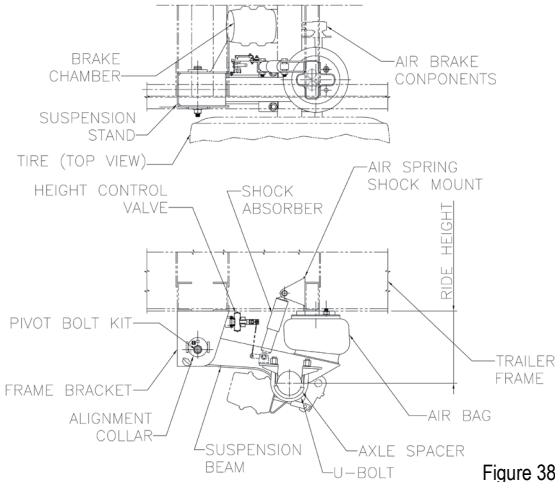

Figure 38
6.6 AIR-RIDE SUSPENSION (FIGURE 38)